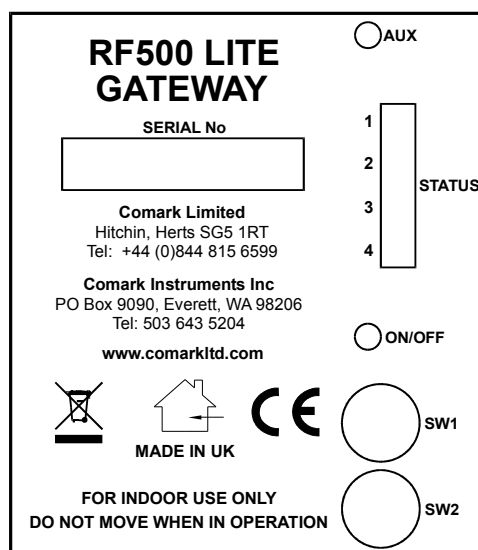

Figure 3 – Left Hand Side View of Gateway
Two relay connectors are provided for external alarms, Autodiallers/Klaxons etc. All other connections to the Gateway are disabled. See Figure 3 – Left Hand Side View of Gateway for further details.
2. (Assuming the Gateway has been switched off) Using a paper clip or similar object, press in and hold the ON/OFF switch on the side of the Gateway for 1 second. Refer to “Figure 3 – Left Hand Side View of Gateway”. The Gateway will beep once. Gateway initialisation will begin.